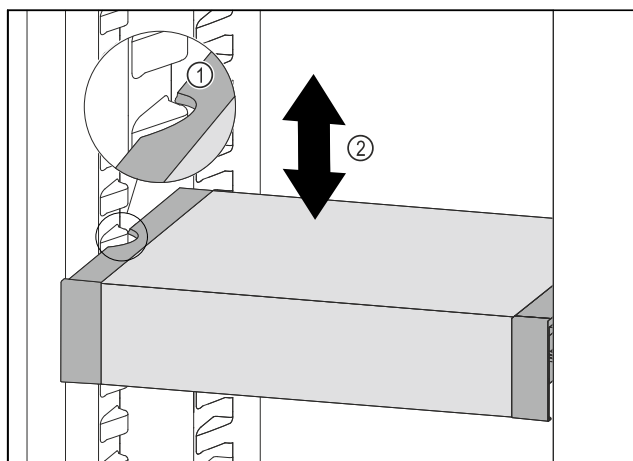

Fig. 87
- Pull VarioSafe forwards until the recesses in the side of the VarioSafe are at the level of the support rib in the refrigerator compartment. *Fig. 87 (1)*
- Move VarioSafe up or down in the refrigerator compartment until the desired height is reached. *Fig. 87 (2)*